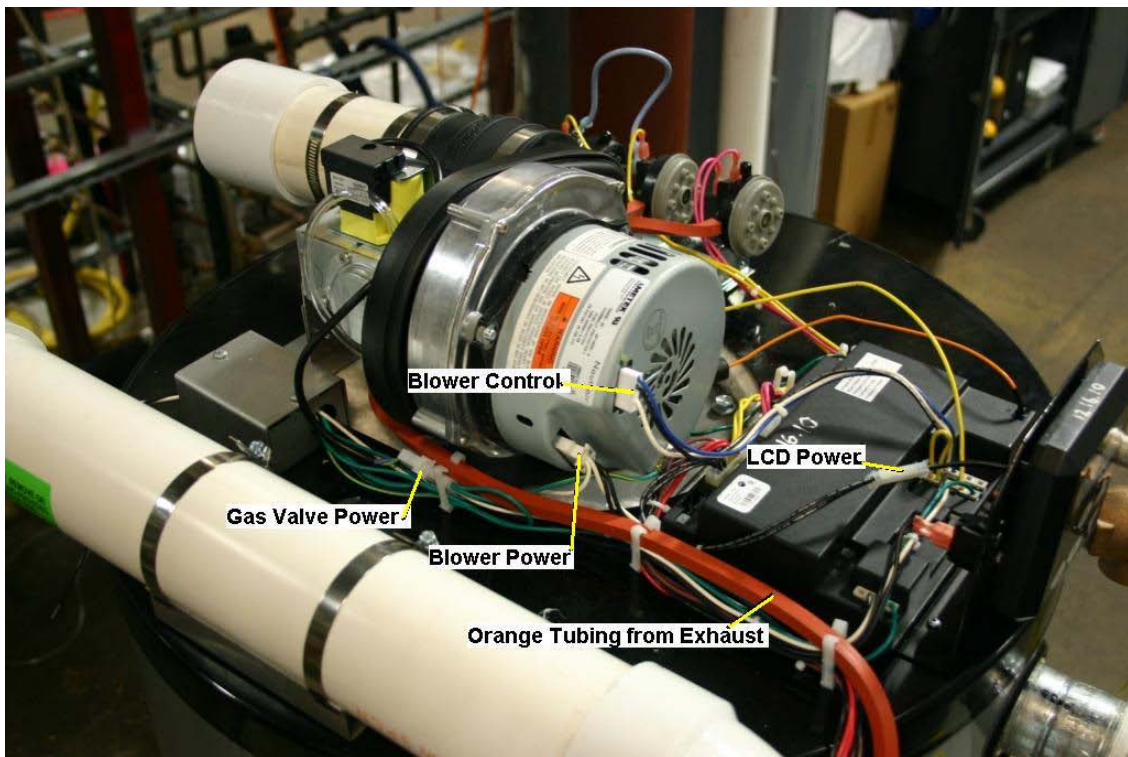

Figure 5
4. Disconnect all wiring from the combustion assembly. See Figures 5 and 6.
Refer to Figures 5 and 6 for wire connections
10. Reconnect the PWM harness to the blower (Blower Control), the blower power harness (Blower power), and the blower ground wire to the front of the blower housing. See Figure 5.
11. Reconnect the gas valve power harness (Gas Valve Power). See Figure 5.